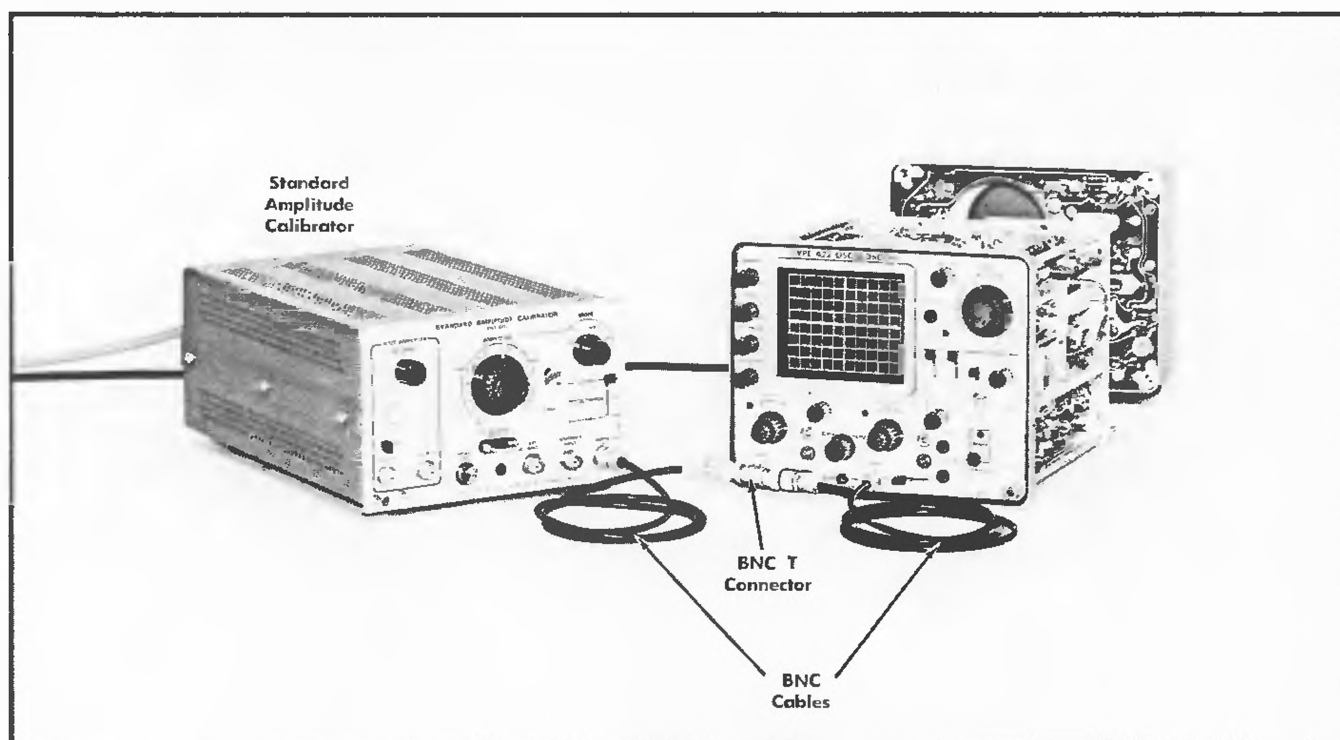

Fig. 6-17. Initial test equipment setup for steps 12–19.
①
- Test equipment setup is shown in Fig. 6-17.